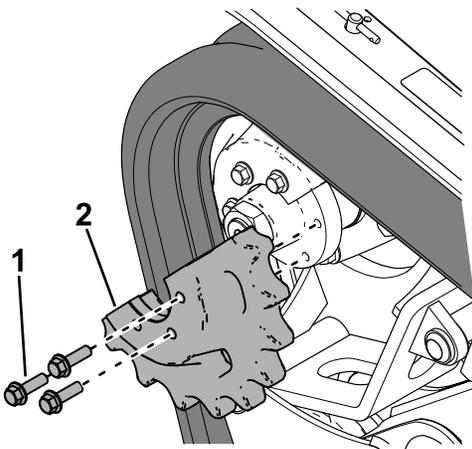

Figure 62
- Apply thread-locking compound to the bolts of the drive sprocket half that you removed and install the sprocket half (Figure 62). Torque the bolts to 95 to 115 N·m (70 to 85 ft-lb).